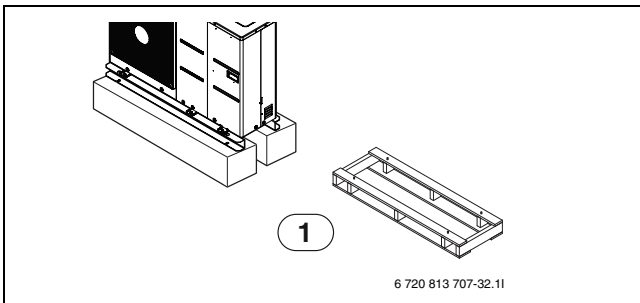

Fig. 8
- ▶ Remove the Pallet (Wood Support) (→ fig. 8) of the bottom side of the unit Base Pan before fixing the bolt. It may cause the unstable state of the unit settlement, and may cause freezing of the heat exchanger resulting in abnormal operations.
- ▶ Remove the Pallet (Wood Support) (→ fig. 8) of the bottom side of the unit before welding. Not removing Pallet (Wood Support) causes hazard of fire during welding.